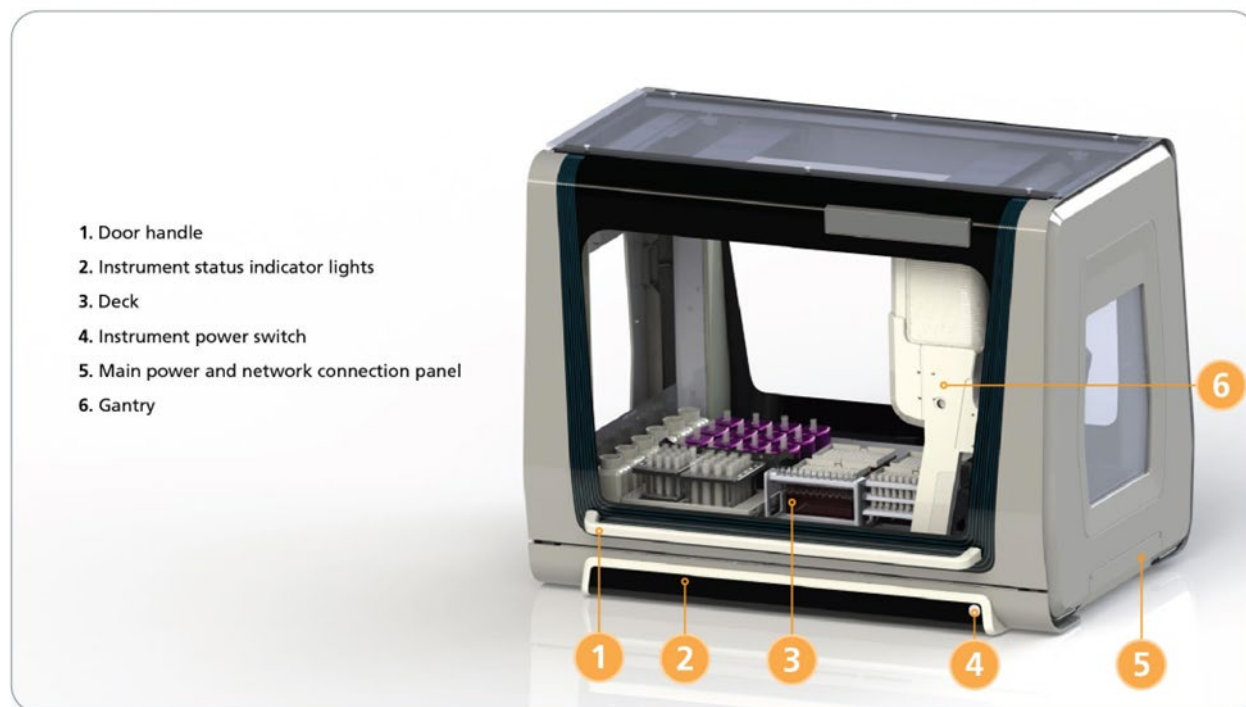

Figure 1. Front View of RoboSep™-16 with the Door Closed
The four pipetting channels of the robot are mounted within the gantry arm (Figure 1), which moves all four channels simultaneously across the deck. The channels have independent spacing between each other, such that they can independently operate on four vials in parallel. The four channels will pick up every other tip in a row of the 96-tip rack. Each channel can aspirate, mix, or dispense up to 1 mL. At the end of each liquid transfer, the tips are disposed in a waste bin to avoid cross-contamination between samples.
1. Grasp the handle at the front of the RoboSep™-16 door (Figure 1).
4. Move the gantry (Figure 1) by hand to the left side.